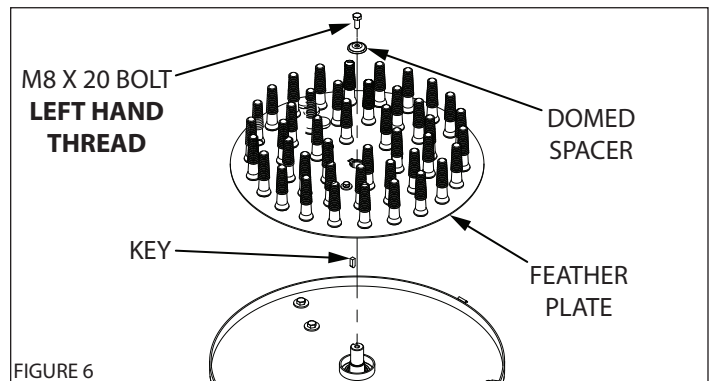

FIGURE 6
8. Insert key in output shaft. (**SEE FIGURE 6**)
(**SEE FIGURE 6**)